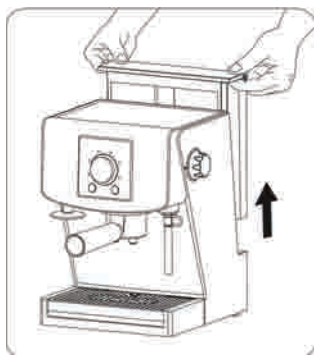

Fig. 1
- Remove the water tank (1) by pulling it up (Fig. 1).